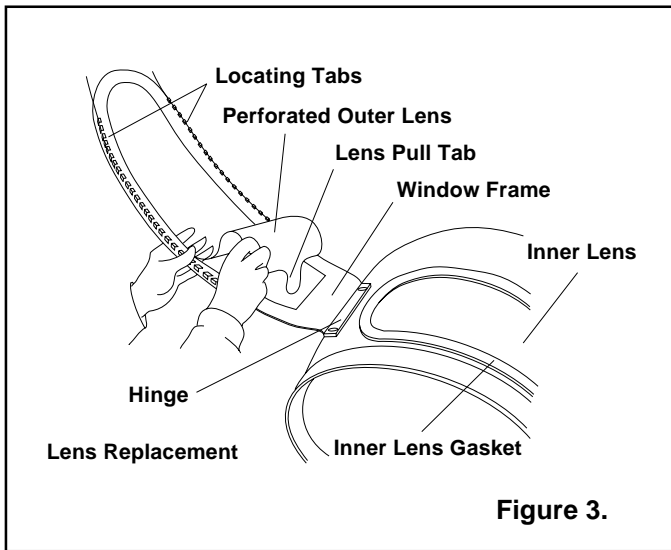

Figure 3.
9.2 Replacing Perforated Outer Lenses, Figure 3
9.2.5 Pick up the stack of prepared lenses. They will be installed with the straight side toward the top of the helmet, and the pull tabs toward the hinged end of the window frame. See Figure 3.